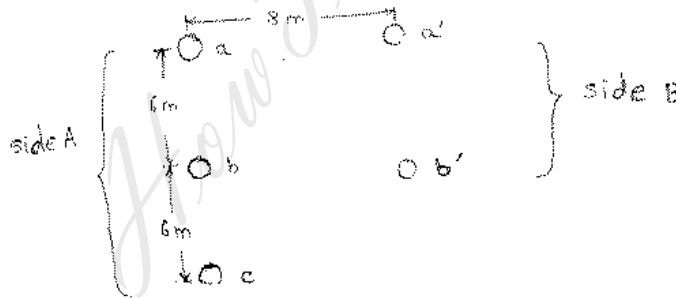

fig. 1 (b)
- B) The incoming circuit of a single phase transmission line as shown in fig. 1 (b) consists of three wires of 0.3 cm radius. The outgoing circuit consists of two wires of 0.4 cm radius. Calculate the inductance of the complete line. 8